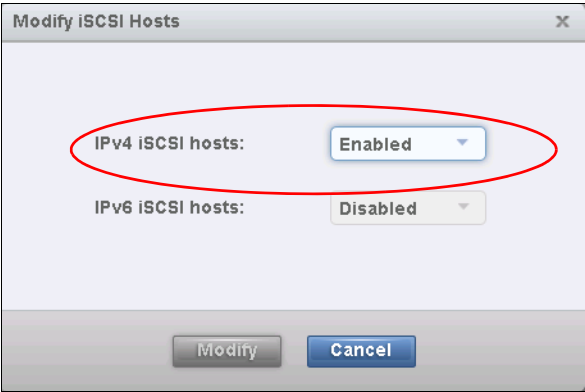

Figure 5-65 Enabled iSCSI hosts
9. By default, all iSCSI hosts are enabled (Figure 5-65).